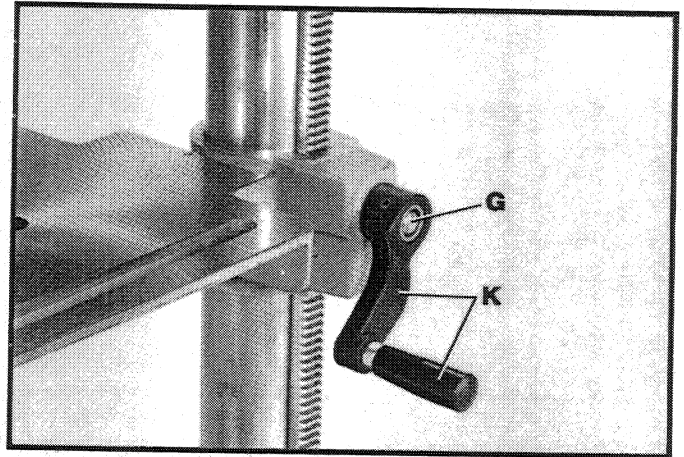

Fig. 11
7. Figure 11, illustrates the table raising and lowering handle (K) assembled to worm gear shaft (G).